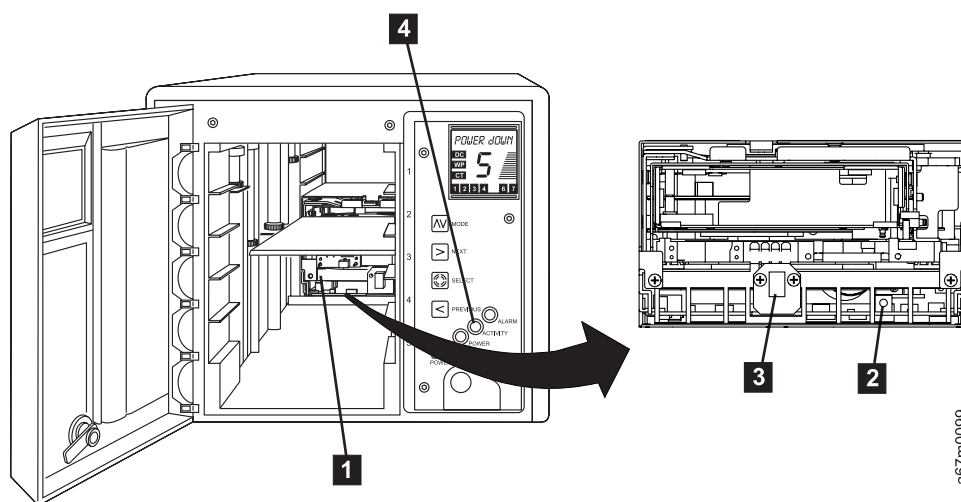

Figure 32. Resetting the tape drive
2. Open the front door of the autoloader and locate the drive (see **1** in Figure 32).